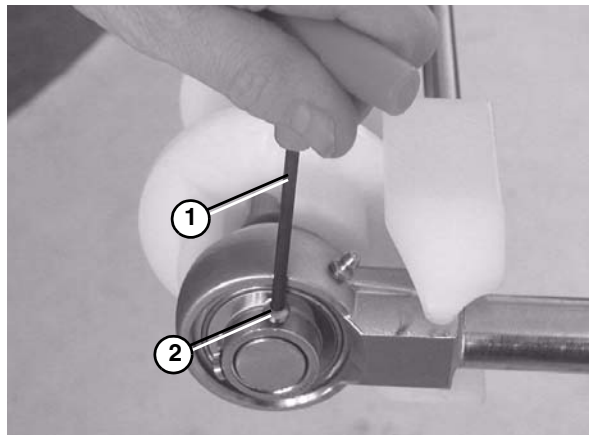

Figure 76
- Use a hex wrench (**Figure 76, item 1**) to tighten the bearing shaft fasteners (**Figure 76, item 2**) to 54 in•lbs (6 N•m). Check after 24 hours of conveyor use.